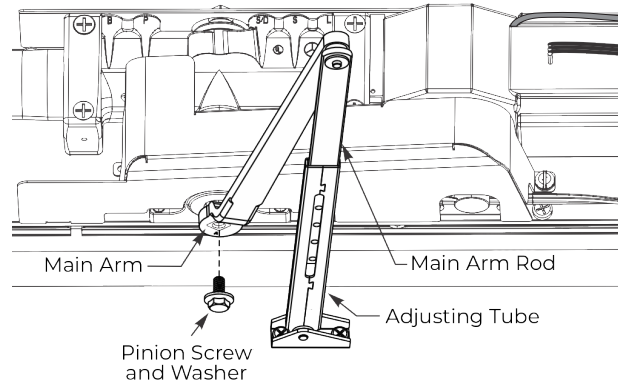

Fig. 6 6021/6031 Arms Shown
2. Using a 7/16" wrench, remove pinion screw holding main arm on pinion. (Fig. 6)